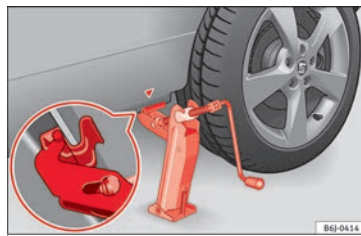

Fig. 67 Fitting the jack.
- Align the jack so that the arm of the jack fits around the rib under the door sill and the movable base plate of the jack is flat on the ground »» Fig. 67.